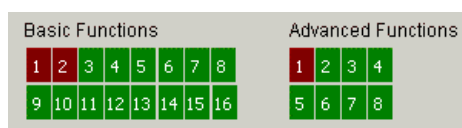

Figure 15-9: Fields concerning the basic and advanced logical combinations of alarms
- 3- Fields concerning the basic and advanced logical combinations of alarms (see Figure 15-9)
The AMC Outputs window shows the status of the 16 Basic and 8 Advanced logical combinations of alarms (Figure 15-9).